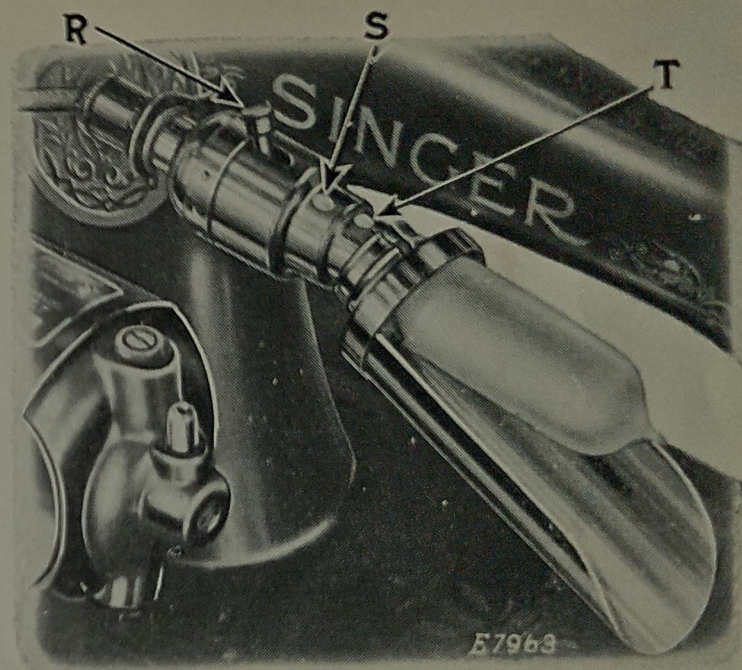

FIG. 10
Reach over the top of the machine and move the switch lever (R, Fig. 10) to the right or left as desired.
To remove the bulb, hold the Singerlight socket tightly with one hand and with the other hand turn the shade halfway around until the pin (S, Fig. 10) for the shade is in the slot of the shade, then gently slip the shade off and allow it to hang free as shown in Fig. 10.
turn it until the bulb pin (T, Fig. 10) is out of the notch in the socket, then withdraw the bulb and shade.
To insert a new bulb, pass the bulb through the collar of the shade with the slot of the shade upward. Hold the socket tightly with one hand and at the same time with the other hand press the bulb into the socket with the bulb pin (T, Fig. 10) in the slot and turn it until this pin is in the notch. Then slip the shade over the socket, the pin (S, Fig. 10) for the shade entering the slot of the shade. See that the pin (S) is in the groove of the shade and turn the shade halfway around, or until it is at the top.